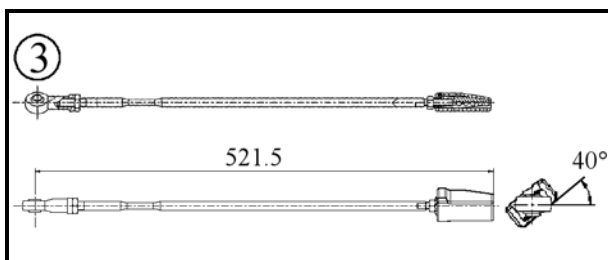
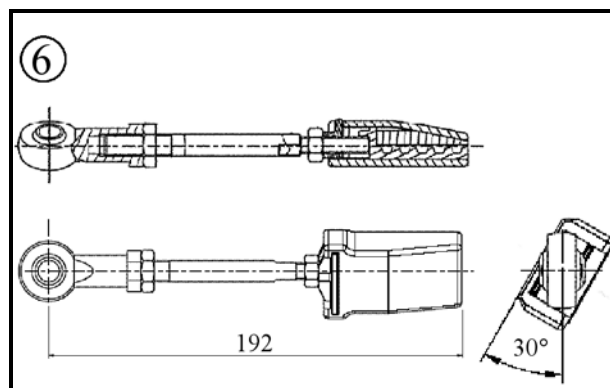

Figure 8.6-4
Figure 8.6-7
-  **CAUTION:** During reassembly procedure lock down the ball joints using a torque wrench setting of 22Nm, excepting the ones in Figure 8.6-4 and Figure 8.6-7, which need a tightening torque wrench setting of 25Nm.